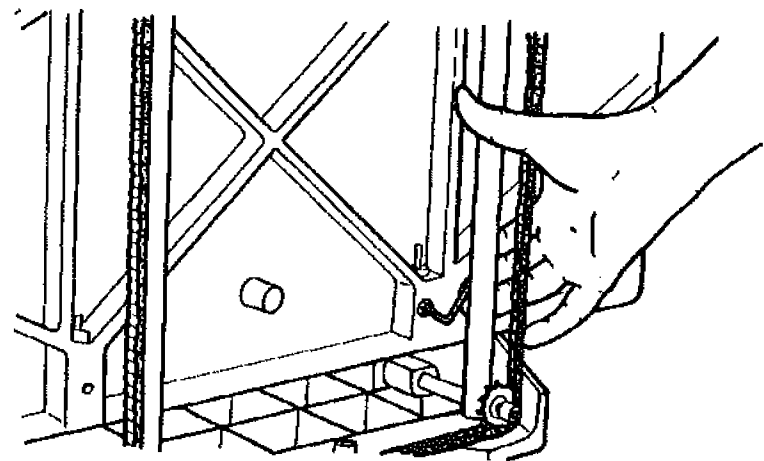

Fig. 74
4. Loosen the four setscrews in the underside of the table at the connector using the 1/8" Allen wrench and the four setscrews in the large connector heads holding the barrel nuts using the 3/32" Allen wrench, as shown in See Fig. 74.